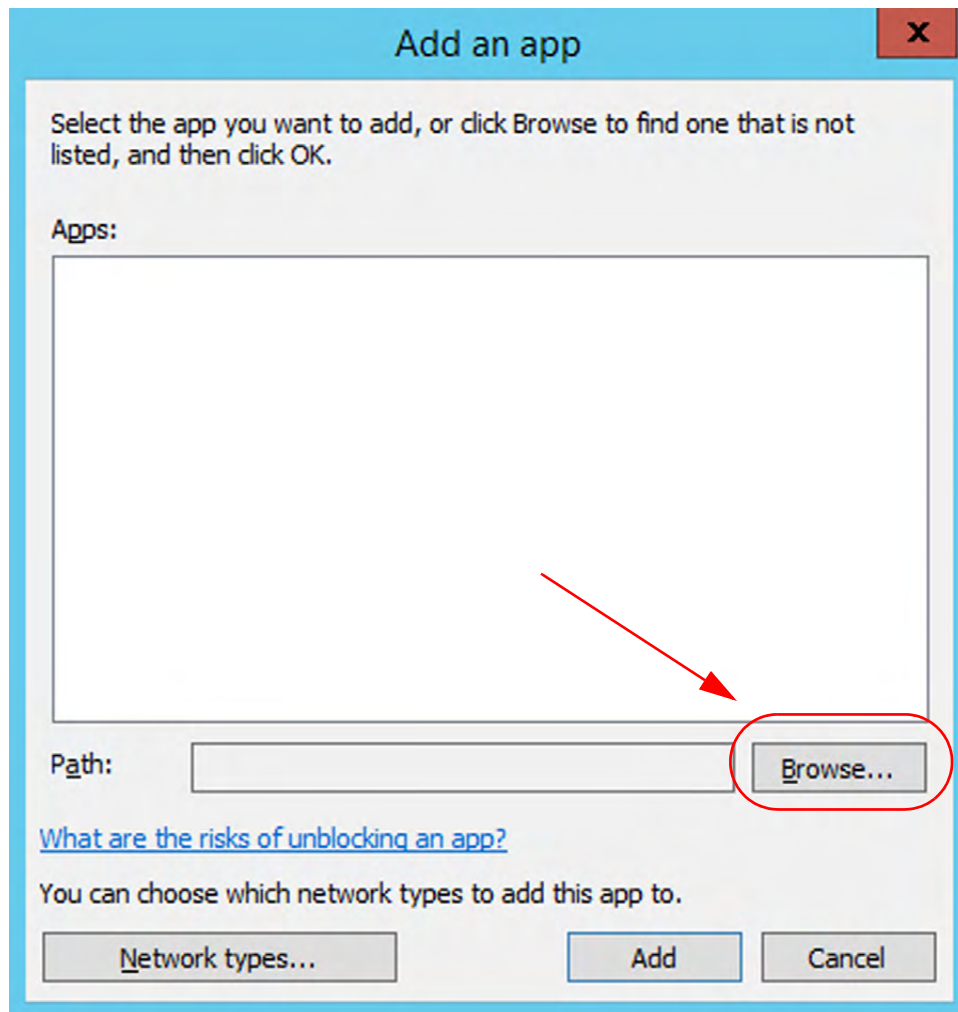

Figure 3.6: Windows Server 2012: Add an App
6. From the “Add an app” screen, select the Browse button. See Figure 3.6.